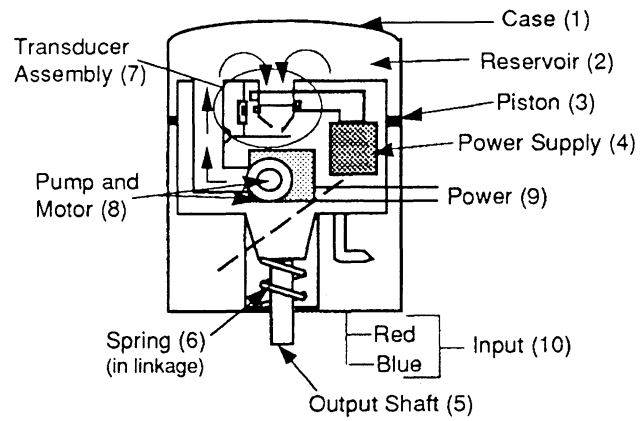

Figure-16 MP-52XX Series Actuators.
The permanently sealed oil-filled case (1 in Figure-16) contains a movable hydraulic piston (3) and a motor/electric pump (8) for the hydraulic system. The pump generates a fluid pressure which is transmitted to the top of the piston. Opposing the hydraulic force is the spring (6) of the damper or valve linkage. The electric pump/motor (8) is powered by the input supply voltage (9) and runs continuously. A regulated Vdc power supply (4) is powered by a transformer winding from the electric pump/motor (8). The control signal 2 to 15 Vdc input (10) positions the transducer flapper (7) for proportional positioning of the shaft (5).